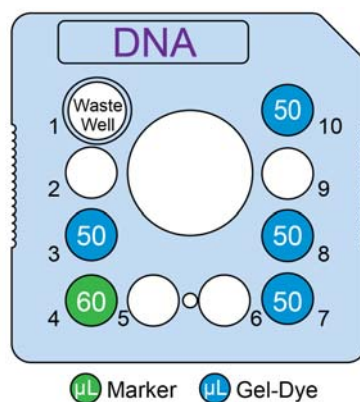
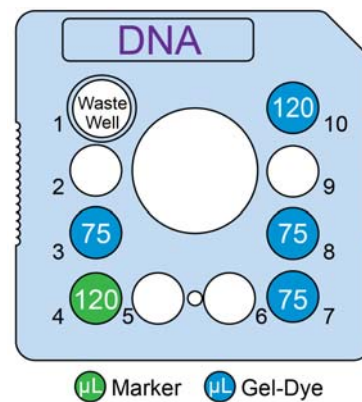

Figure 4. Reagent placement for Small-batch (up to 24 samples).
Figure 5. Reagent placement for Large-batch (up to 48 samples).
- 5 Using a reverse pipetting technique, add Gel-Dye solution to chip wells 3, 7, 8, and 10. For Small-batch, add 50 μL per well as shown in Figure 4. For Large-batch, add 75 μL in wells 3, 7 and 8 and 120 μL in well and 10 as shown in Figure 5.
- 6 Add 60 μ L Genomic DNA Marker (green cap ●) to chip well 4 for Small-batch (Figure 4) or 120 μ L for Large-batch (Figure 5).